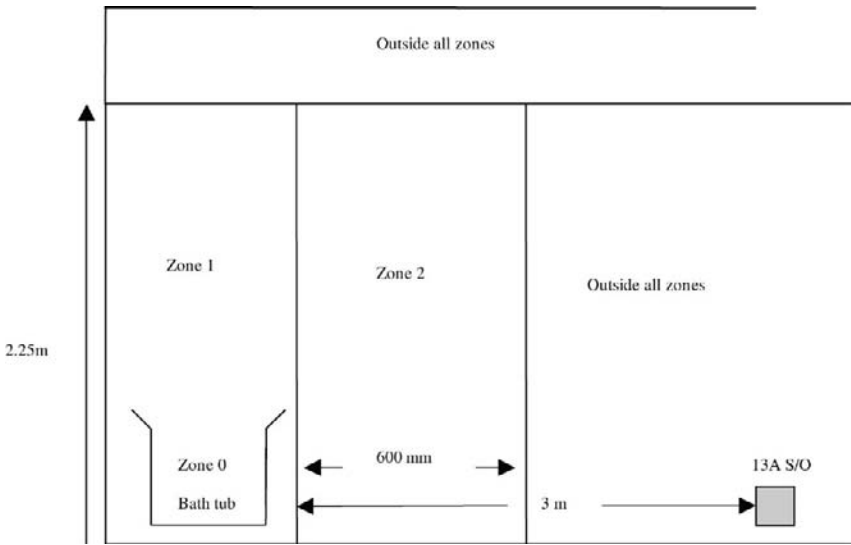

Fig. 3a
The locations, which are divided into three zones, 0, 1 and 2, are as shown in Figs 3a, 3b and 3c.
- 13A socket outlets may be installed beyond 3 m from the boundary of zone 1 (see Fig. 3a)